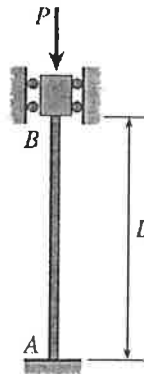

Figure 4
4. Determine the effective length L_e and buckling load P_{cr} for an ideal column with ends fixed against rotation (see Figure 4) by solving the differential equation of the deflection curve. It is using the assumptions of ideal, slender, prismatic, linearly elastic column (Euler buckling). Buckling occurs in the plane of the figure unless stated otherwise. (20%)